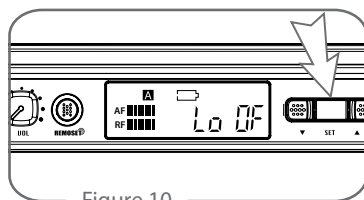

Figure 10
- (1) Press “Set” button ④ for 3 seconds to enter setting window
- (2) Press “Set” again until the Lock setting window shows. (Figure 10)